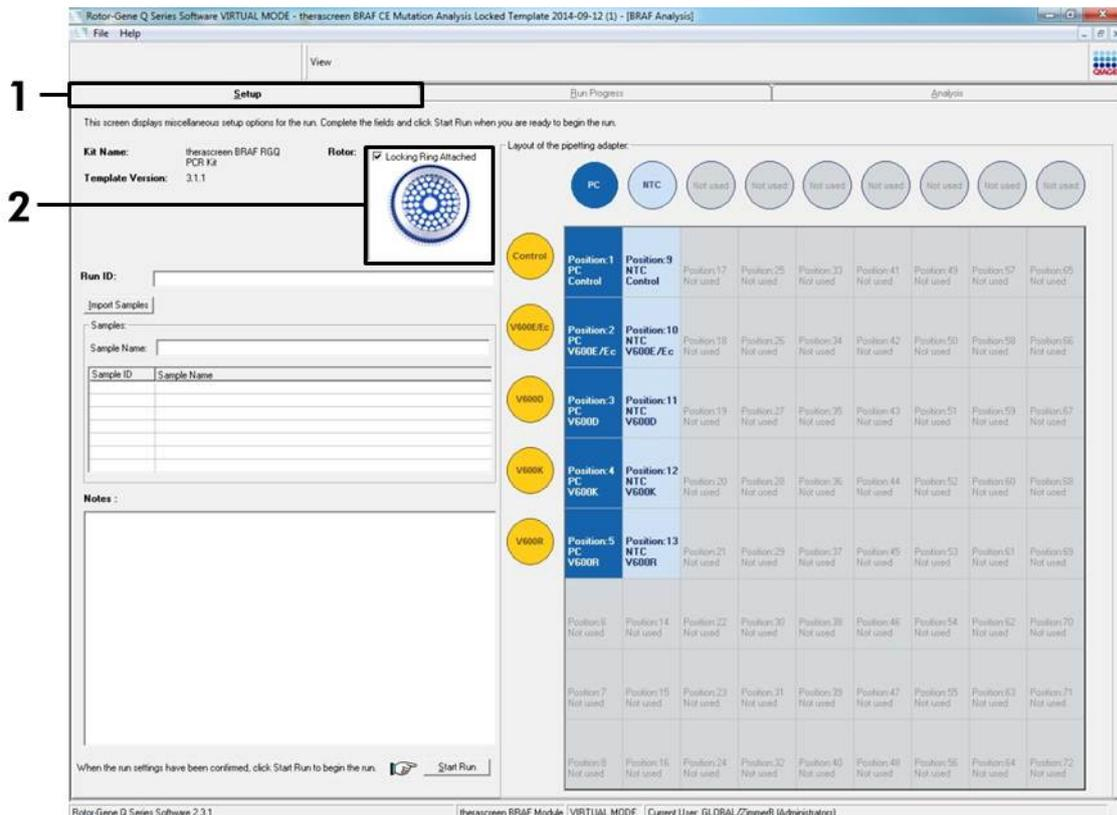

Figure 13. The “Setup” tab (1) and “Locking Ring Attached” box (2).
- The “Setup” tab appears as the default (Figure 13). Ensure that the locking ring is properly attached and check the “Locking Ring Attached” box. Close the lid of the Rotor-Gene Q instrument.